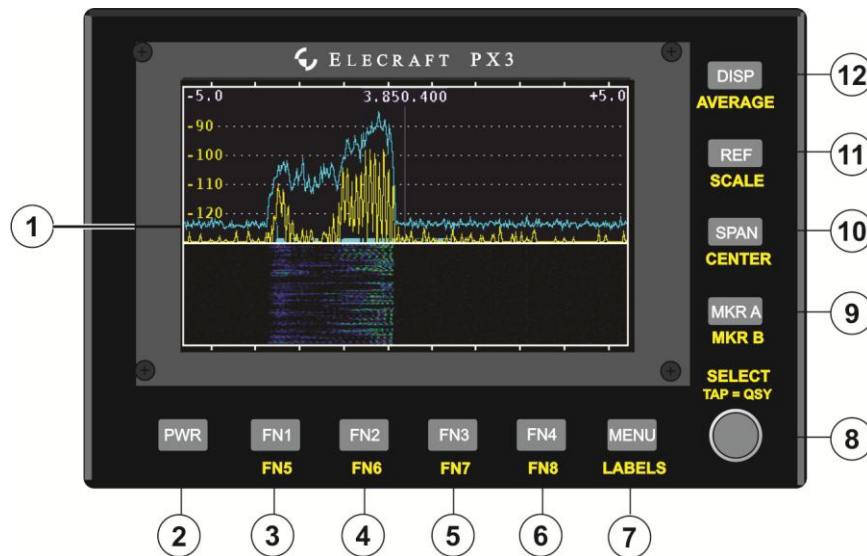

Figure 1. PX3 Front Panel.
<p>The Basics</p>	<p>⚠ TAP AND HOLD: Most PX3 switches have two functions, similar to the KX3. Tap (press briefly) to activate the function labeled on the switch. Hold (press for 1/2 second) activates the function labeled below the switch. In the text, tap functions are shown like this: DISP while a hold function is shown like this: AVERAGE. Additional typographical conventions are shown on the previous page.</p> <p>The controls and indicators shown in Figure 1 are identified by the circled numbers in the following text (e.g. ① refers to the display screen).</p> <ul style="list-style-type: none"> • Apply power to the PX3 and hold PWR ② to turn it on. • Tap DISP ⑫ to cycle between spectrum and waterfall display modes (Page 15). • Activating many functions enables the SELECT knob ⑧ so you can adjust the parameter associated with the function. The current parameter value is shown on the screen ①. You can exit and save the parameter by tapping the same key a second time, even for hold functions. • For hold functions, you can also hold the key a second time to exit parameter-entry mode. Holding the four keys along the right edge of the front panel ⑨,⑩,⑪,⑫, a second time de-activates the function itself. For example, holding CENTER ⑩ a second time returns the display center frequency to the transceiver frequency and holding MKR B ⑨ a second time turns off marker B.